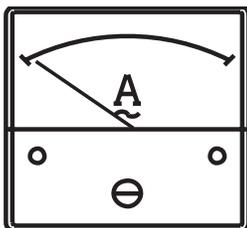

Figure 32. Ammeter (No Load)
9. The ammeter (Figure 32) will indicate **zero amps** with no load applied. When a load is applied, the ammeter will indicate the amount of current that the load is drawing from the generator.